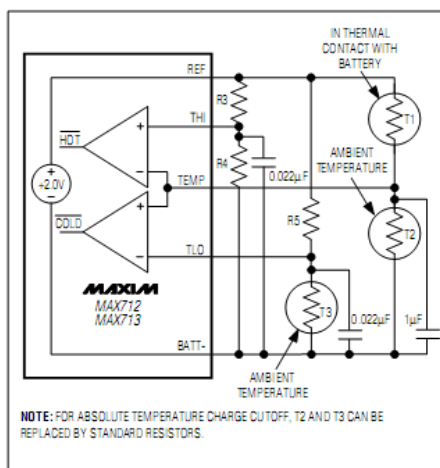
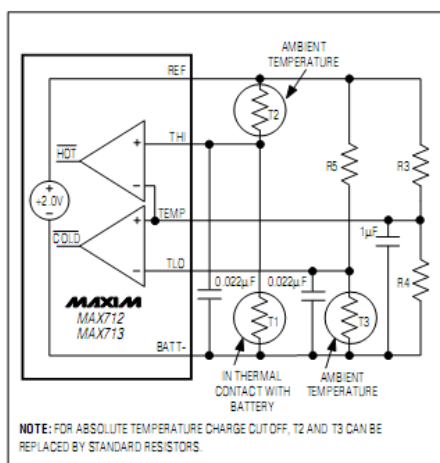
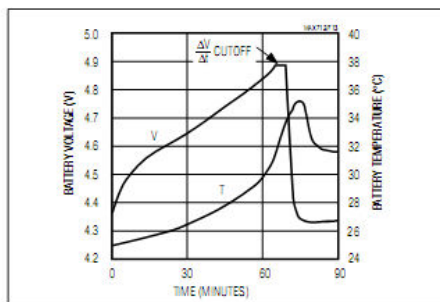

Figure 9a. Temperature Comparators
Figure 9b. Alternative Temperature Comparator Configuration
Figure 13. 3 NiMH Cells Charged with MAX712
Figure 9a shows how the MAX712/MAX713 detect over- and under-temperature battery conditions using negative temperature coefficient thermistors. Use the same model thermistor for T1 and T2 so that both have the same nominal resistance. The voltage at TEMP is 1V (referred to BATT-) when the battery is at ambient temperature.
terminal. In this case, use the configuration shown in Figure 9b. Thermistors T2 and T3 can be replaced by standard resistors if absolute temperature charge cutoff is acceptable. All resistance values in Figures 9a and 9b should be chosen in the 10kΩ to 500kΩ range.
Figures 13 and 14 show the results of charging 3 AA, 1000mAh, NiMH batteries from Gold Peak (part no. GP1000AAH, GP Batteries (619) 438-2202) at a 1A rate using the MAX712 and MAX713, respectively. The *Typical Operating Circuit* is used with Figure 9a's thermistor configuration.